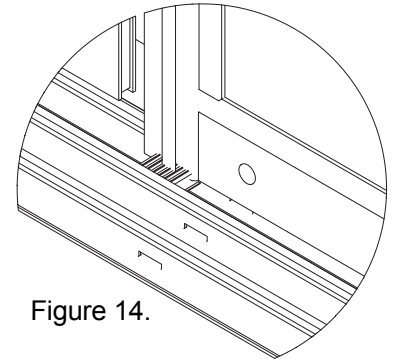

Figure 14.
**Step 20. (Dust Plug Installation)** Place the fin seal dust plug directly underneath each interlock at the head and sill ends (See Figure 14). Trim two dust plugs so that they fit between the innermost roller track and the sill riser. These dust plugs will be placed directly above and below the center panel / hook strip interlock.